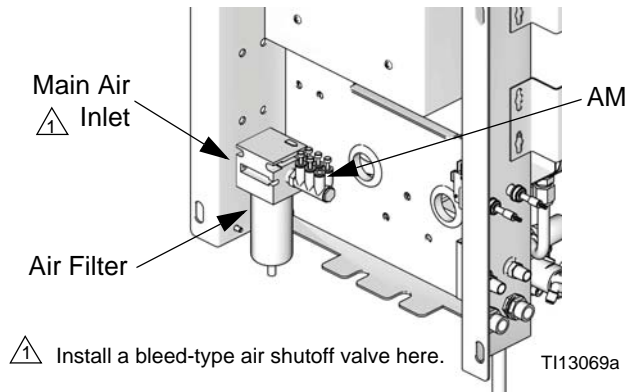
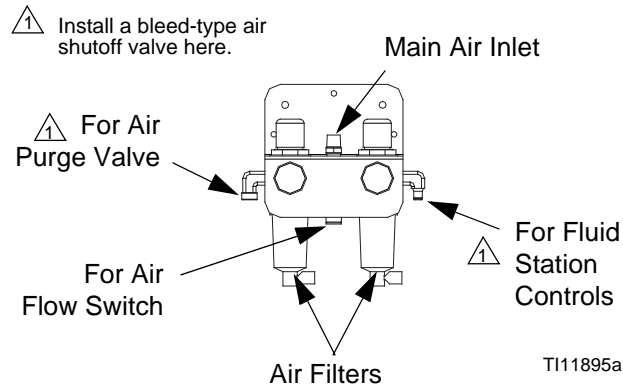

FIG. 7. Wall Mount Air Supply Inlet
FIG. 8. RoboMix Air Supply Control
2. Install a bleed-type air shutoff valve into the control air filter inlet. See FIG. 7 for Wall Mount systems and FIG. 8 for RoboMix systems.
Use a separate purge air supply line for the air purge valve (APV). Do not connect the air purge valve to the unit's main air supply or to the air manifold (AM, FIG. 7), to avoid contaminating the solenoids, air logic lines, or unit's main air supply with fluid if the air purge valve (APV) and check valve (CV) fail.